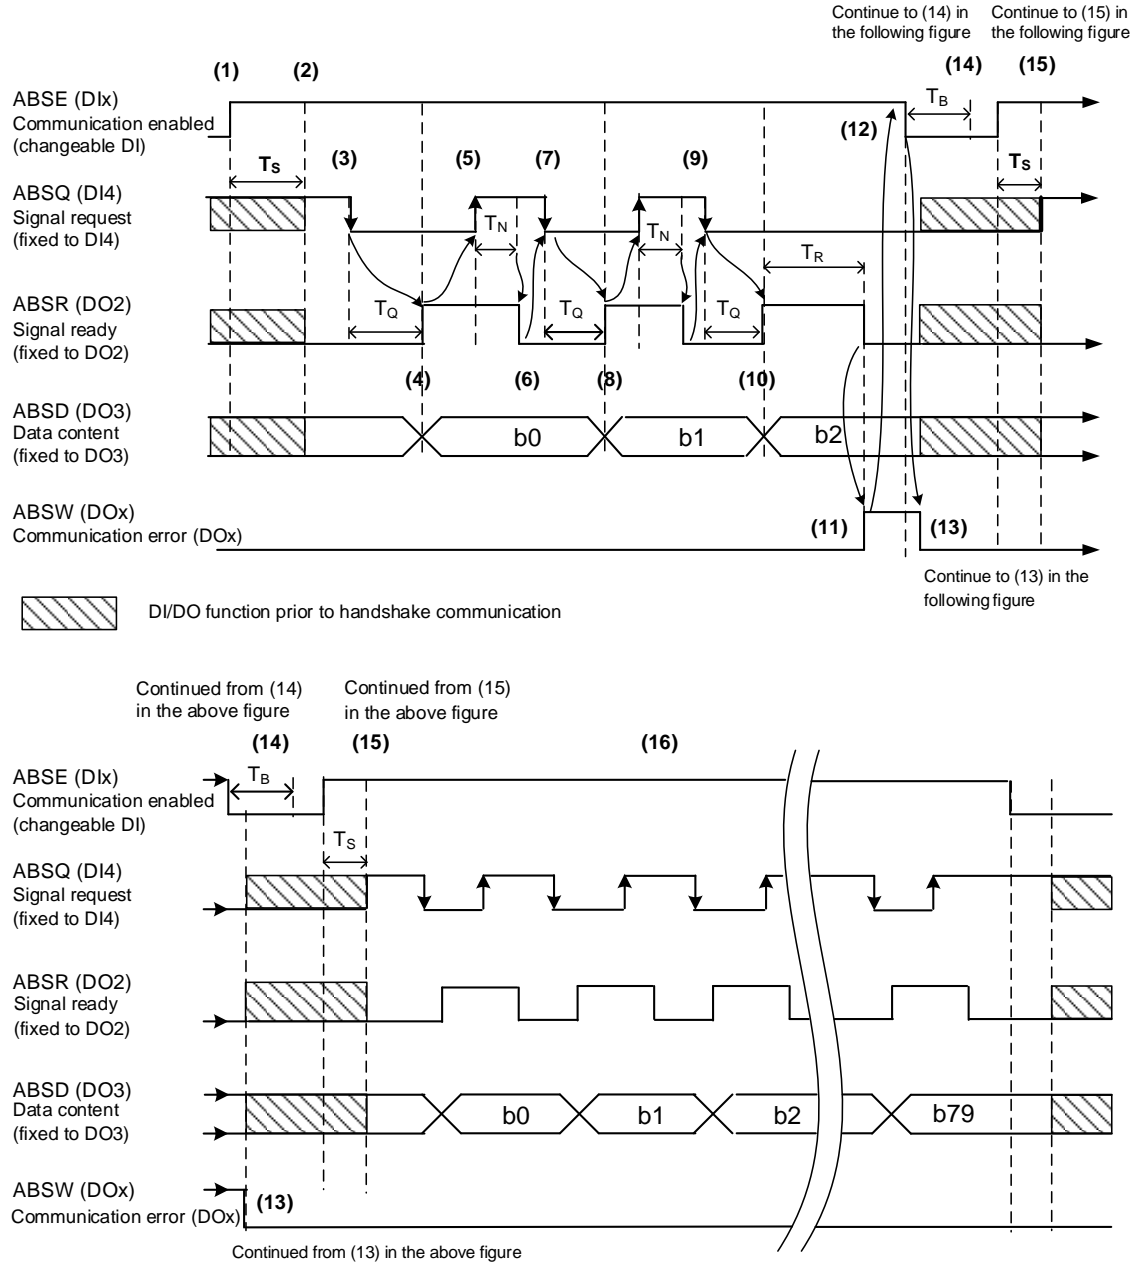

Figure 10.3.5.1.1 Timing diagram for reading the absolute position with DI/DO
4. After the T_Q time, the handshake data is ready and the absolute position is sent to ABSD. Now the servo drive turns on the ABSR signal and the controller can access the data. If the controller still cannot detect the ABSR status while it is changing to high level after the maximum T_Q time (refer to Figure 10.3.5.1.1), there may be a communication error.